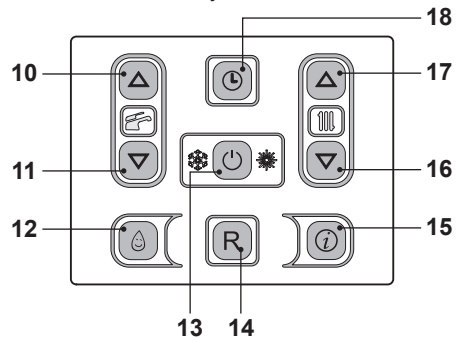
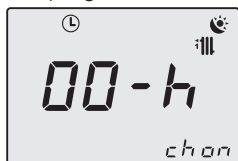
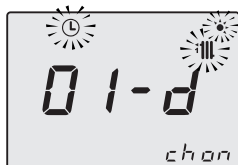

Fig. 2.16
Fig. 2.18
Fig. 2.19
Press keys 16 and 17 (Fig. 2.16) at the same time for 2 seconds to enter programme menu (Fig. 2.17).
Press key 13 (Fig. 2.16) to modify the function status: (13 scrolls through Menu **oFF**, **ch on**, **ch oFF**) Fig. 2.18.
Press keys 10 or 11 (Fig. 2.16) to programme the forced heating function Minimum 1 hour to Maximum 30 days (The above example has been set for **ch on** for 1 day) (Fig. 2.19).
To exit programming without making any changes press keys 16 and 17 (Fig. 2.16) at same time for 2 seconds.
Hold down keys 16 and 17 (Fig. 2.16) at the same time for 2 seconds until the remaining time and status of the programme appears on the LCD display.
Press key 13 (Fig. 2.16) to modify the status to "oFF".
To exit programming without making any changes press key 16 and 17 (Fig. 2.16) at the same time for 2 seconds or wait 60 seconds.